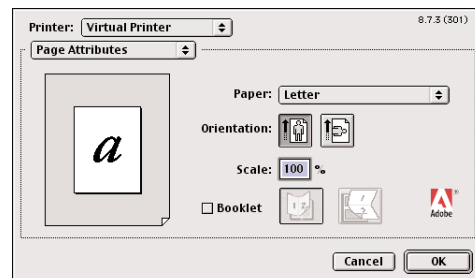
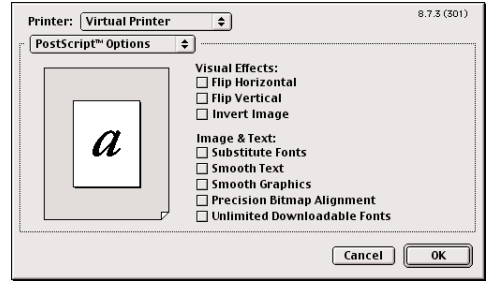
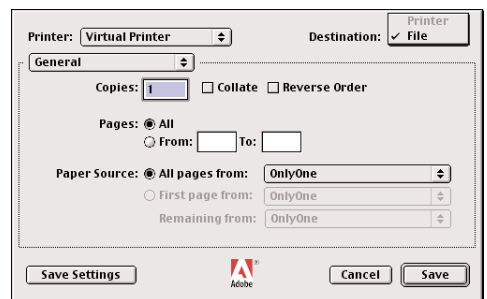

Figure 3-3
Figure 3-4
Figure 3-7
Acrobat Distiller now within the Printer Descriptions it will create a Virtual Printer which you can later select as a Printer. (Figure 3-3)
Page Attributes: (Figure 3-3)
## PostScript Options: (Figure 3-4)
**Printer:** If you have configured your watched folder using your Print server software, select the printer you defined for PDF output. As shown in (Figure 3-3). If using the print spooler configuration, you will need to make the selection Destination: Printer. (Figure 3-7)
If you are not printing your file to a print server and you are using version 8.6 or later of Adobe PS, you will select Virtual Printer as your Printer selection as shown in (Figure 3-4.) Destination: File is preselected and is the only available choice. (Figure 3-7)